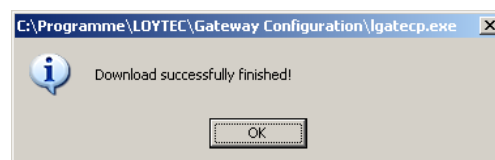

Figure 164: FTP download success dialog.
8. Observe the download progress. When the download is complete, the dialog shown in Figure 164 appears.